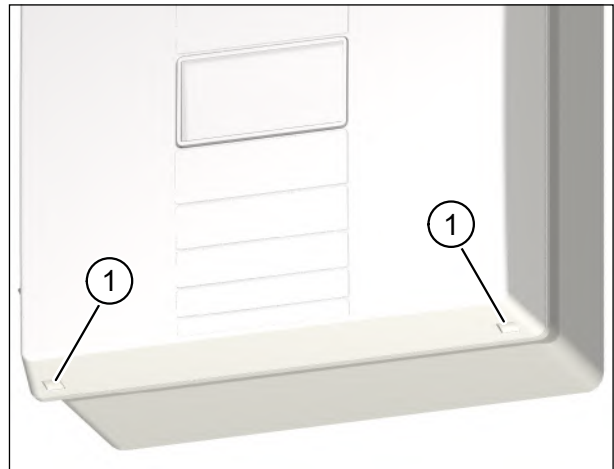

Fig. 17: Removing the unit cover from the ventilation unit
- ▶ Using both thumbs, press the two latches (item 1 in Fig. 17) on the bottom of the ventilation unit. The unit cover will come away.